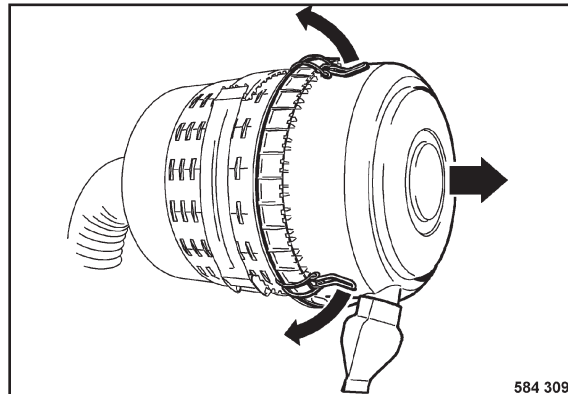

Fig. 161
- Loosen both locking hooks (Fig. 161) on the housing cover and take the cover off.